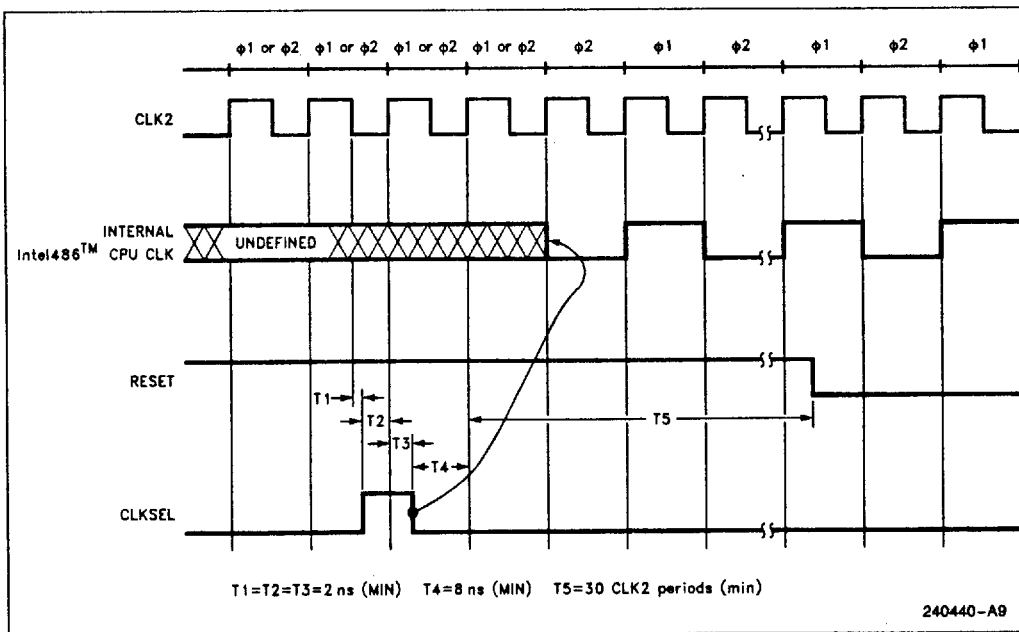

Figure 15.5. CLKSEL Timing Definition during Power-Up Reset
Figure 15.5 shows the detailed timing definition of this pulse. The pulse on CLKSEL pin is only required during power-up reset. During all other times including warm resets the CLKSEL pin should be driven low and must be free of spikes or glitches. After the power-up reset, the system must track the phase of CLK2 at all times including during warm resets so that the input/output signals can be sampled at the appropriate clock edge. The phase relationship is described in the next section.
1. Frequency can be changed at least 8 clocks after satisfying t_4 (see Figure 15.5). The system can be started at a lower frequency and after satisfying the CLKSEL pulse specifications, it can be operated at the required speed.